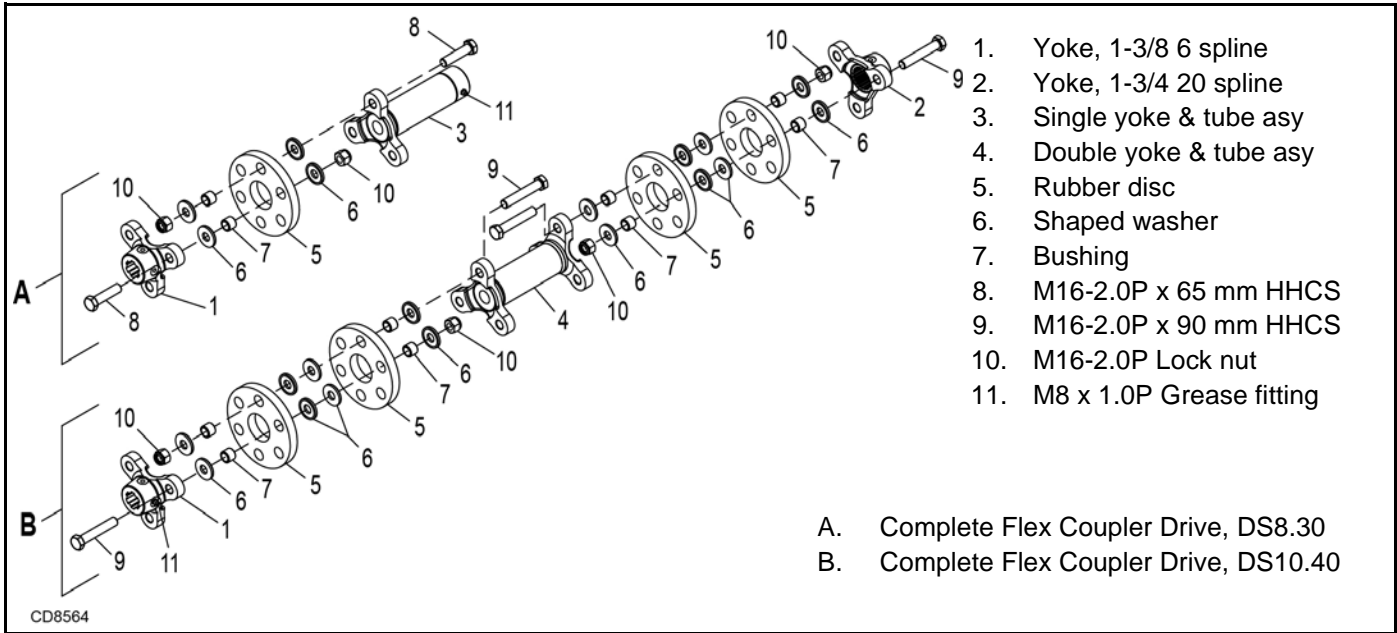

Figure 22. Side Drive Assembly
Reassemble shaft as shown in Figure 22. End yokes (1 & 2) do not bolt directly to center shaft (4). Use the special formed washer (6) and bushings (7) between the rubber discs (5) and under bolt head or nut near rubber disc. Tighten the nuts (10) evenly until the formed washers (6) are slightly embedded into the rubber discs. Rubber discs (5) will warp and twist if bolts are overtightened. Tighten set screws on center gearbox shaft only. Grease opposite end of side drive through grease fitting (11) located on end yoke.
2. To make crossbar removal easier, remove blades as shown in Figure 22.